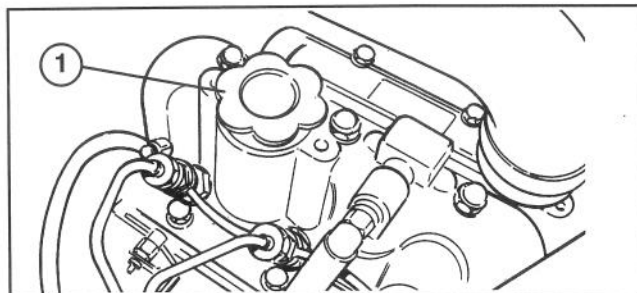

Figure 14
3. If oil level is low, remove oil fill cap (Fig. 14) and gradually add small quantities of oil, checking level frequently, until level reaches FULL mark on dipstick.